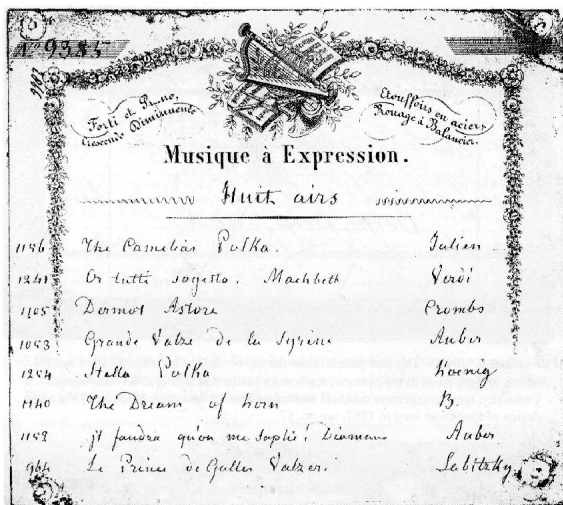

Fig 4. David Lecoultre et fils tune sheet
D. Lecoultre became D. Lecoultre et Fils, Brassus. This indicates David was no longer in Geneva but established there with his sons, whose names remain unknown, as does the foundation date. The only clue is the Bulleid dateline that suggests anywhere between 1820 and 1827. Antoine-Charles, who made combs between 1823 and 1828, became a watchmaker. A David Lecoultre et Fils tune sheet, serial 9385, circa 1848, (TSB64) is reproduced as fig 4. It uses the terms *Rouage à Balancier, Forte et Piano, Crescendo* and *Diminuendo*. The tune sheet also has the words D. Lecoultre et Fils, le Brassus, Canton de Vaud written in the top right panel. Although David died in 1850, a two-comb *Forte Piano* musical box bearing his name was shown at the Great exhibition of London in 1851.